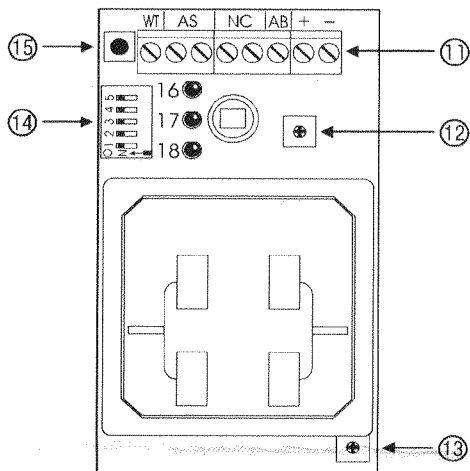

FIG. 3 - Identificazione delle parti sul circuito dell'LB612.
- if the WT terminal is disconnected, the alarm LEDs are not enabled. In both cases, in order to use the WT terminal, dip-switch n. 4 (see fig. 3) must be in the OFF position.
Tramite il banco di dip-switch [14] (fig. 3) è possibile adattare il funzionamento dell'LB612 alle proprie esigenze. La tabella che segue riassume la funzione dei vari dip-switch:
By means of the dip-switch board [14] (fig. 3) it is possible to customize the LB612. The table that follows illustrates the functions of the various dip-switches:
L'LB612 può funzionare in due modi diversi denominati AND e AND/OR selezionabili tramite il dip-switch n. 5 (fig. 3).
The LB612 may function in two different modes denominated AND and AND/OR, both implemented by means of the dip-switch n.5 (fig.3).
The LB612 is able to memorize and display the verification of alarm conditions (for information as to when the LB612 verifies alarm read paragraphs 5.1 and 5.2). This function is useful when it is necessary to connect several sensors to the same line of a control panel; in fact in this case, if the sensor was not equipped with a memory, it would be impossible to locate the exact point of intrusion. The signalling of an alarm event is effected by the RED led (see 18 in fig.3): if the RED led remains lighted when the control panel is not enabled, it is because the sensor in question has signalled an alarm to the control panel.
In order to identify the sensor component, refer to the figure 3 and to the following table.